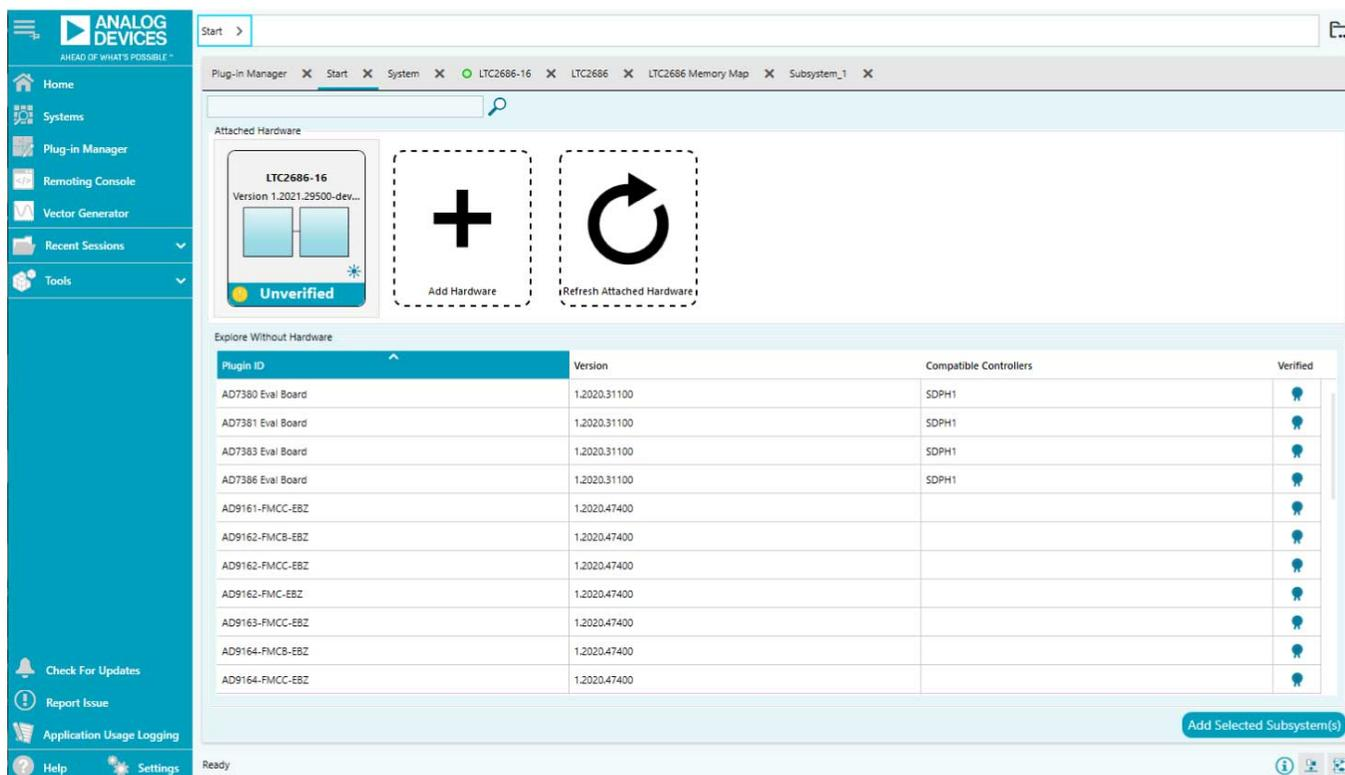
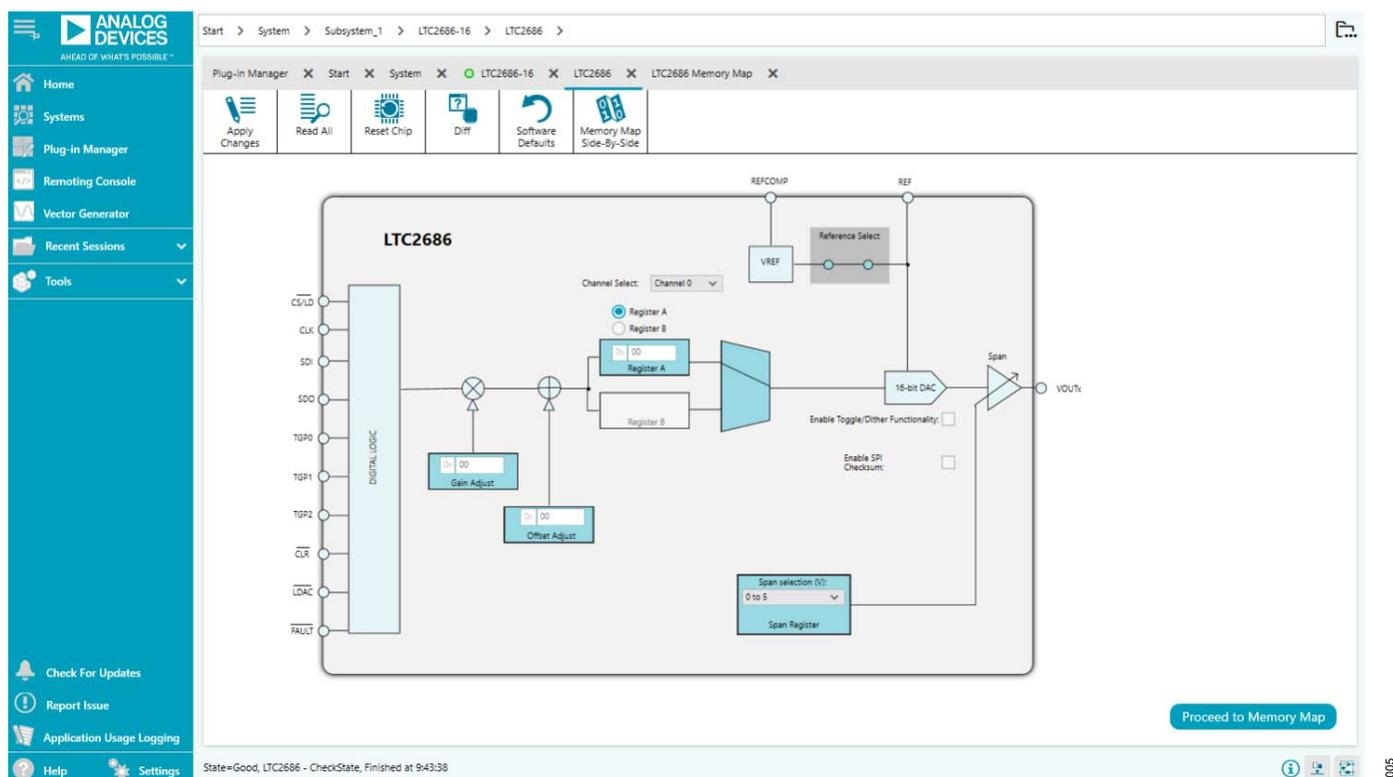
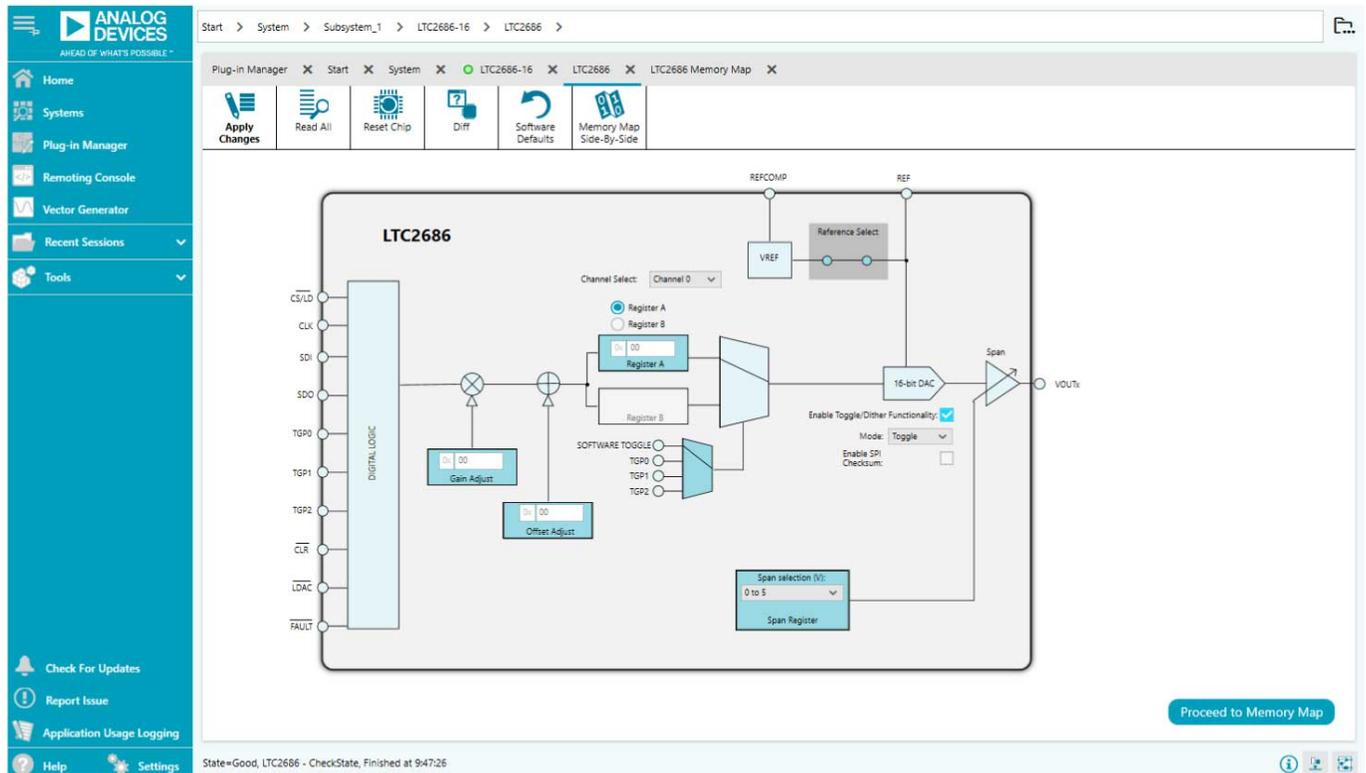
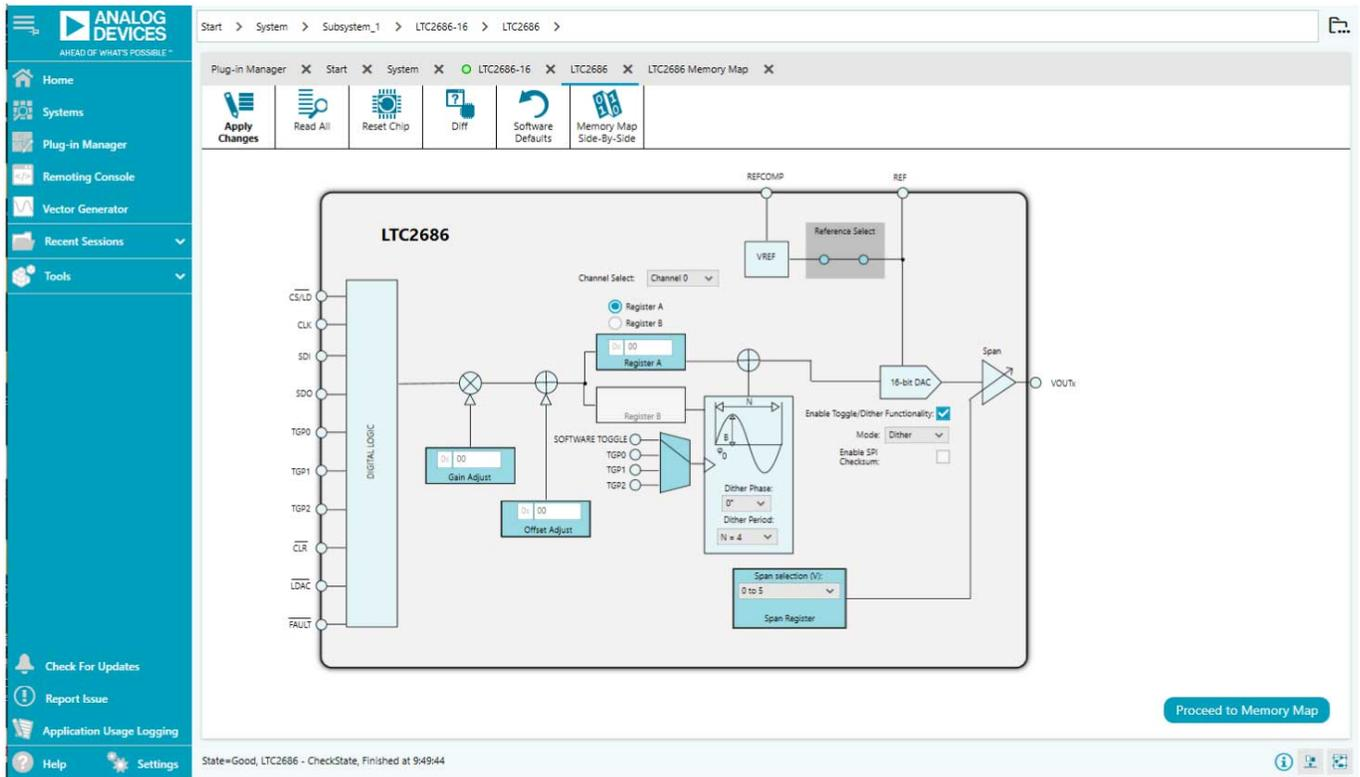

Figure 4. Interface Window
Figure 5. ACE Evaluation Software Main Window
Figure 6. Toggle View
Figure 7. Dither View
To start the ACE evaluation software, from the **Start** menu, click **Analog Devices > ACE**. The software window opens (see Figure 4) until the software recognizes the DC2904A-B. When the software recognizes the DC2904A-B, the main software window in Figure 5 opens.
In the main ACE evaluation software window (see Figure 5), each channel can be controlled. Various settings for the LTC2686 are available in this window, allowing the user to configure the output range, output voltage, gain adjustment, offset adjustment, toggle options, and dither options of each channel.
The DC2904A-B uses the LTC2686 internal reference to set the full-scale range. To apply an external reference, click the box labeled **Reference Select** (see Figure 5).
2. Select the desired range for the selected channel using the **Span selection** dropdown box (see Figure 5).
2. Type the desired value into the **Register A** text box (see Figure 5).
2. Type the desired hexadecimal value into the **Register A** (or **Register B**) text box (see Figure 5).
2. Type the desired hexadecimal offset or gain adjust value into the **Offset Adjust** or **Gain Adjust** text boxes (see Figure 5).
Toggle mode can be enabled by selecting the **Enable Toggle/Dither Functionality** check box (see Figure 5). This check box enables the toggle view shown in Figure 6. The toggle signal can then be applied to the selected pin or supplied internally.
After enabling the toggle view shown in Figure 6 as described in the Enabling Toggle Mode section, select the dither mode from the Mode dropdown box to bring up the dither options (see Figure 7).